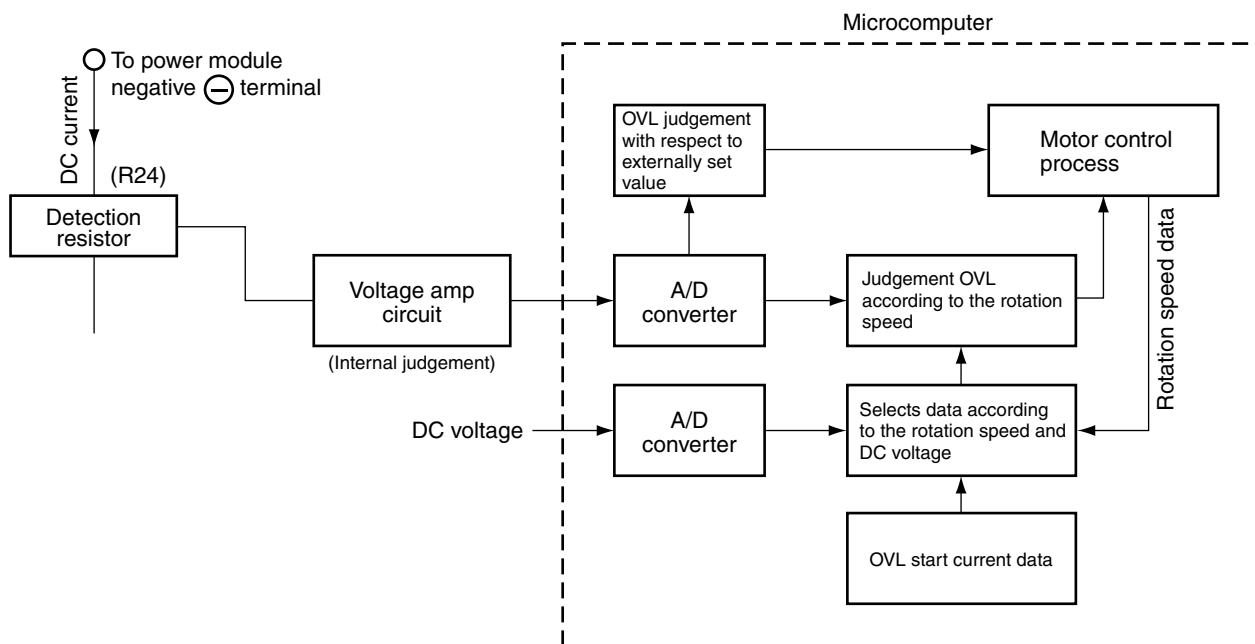
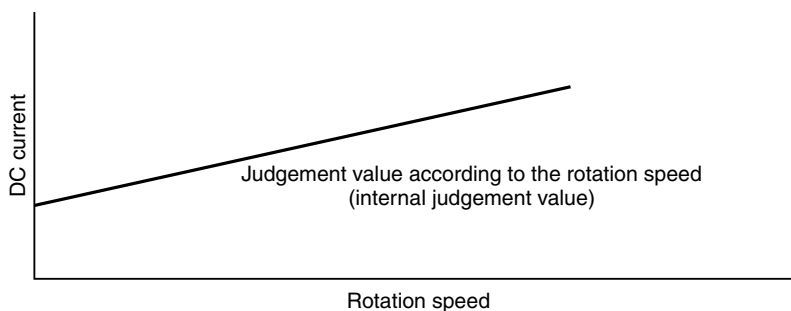

Fig. 8-4 Overload Control System Configuration
Fig. 8-5
- As shown in diagram, if current exceeding 27A flows, voltage at point (A) recognized by detecting resistor is input to pin (10) of SPM2 – HIC, and voltage divided by R41 and R43 is input to pin (9) of IC1. Since threshold of IC1 is exceeded in this case, Lo signal is input from pin (8) (Voltage at point (B) . When Lo signal is input to pin (17) of microcomputer, microcomputer stops drive output.
(2) Overload control circuit (OVL control circuit)
- Fig. 8-4 shows the overload control system configuration and Fig. 8-5 is a characteristic diagram of overload judgement values. There are two judgement methods-external judgement which compares the externally set value with the DC current value regardless of the rotation speed and internal judgement which compares the set value that varies according to the rotation speed programmed in the microcomputer software with the DC current value.